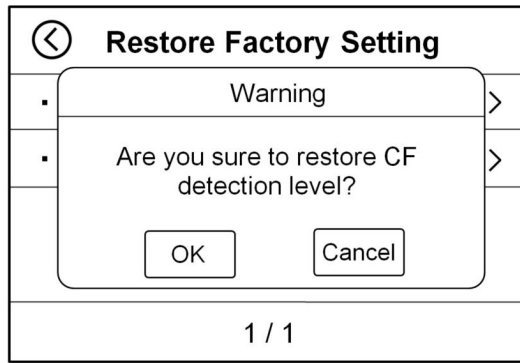

Figure 67
3) “**Restore CF Detection Level**”: Restore the factory settings of the counterfeit detection gear. If the customer has a special request to adjust the counterfeit check position of a certain country's currency for banknote counting, and wants to restore the original counterfeit check unit after counting the currency, this function can be used. As shown in Figure 67 below.